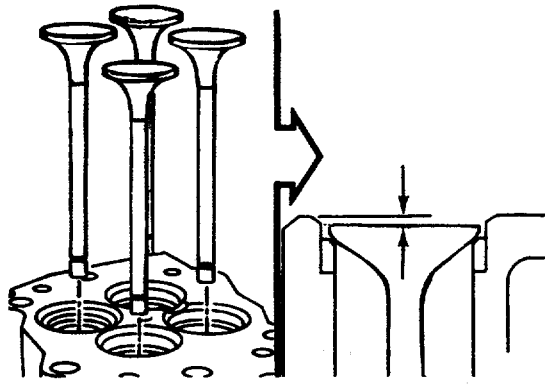
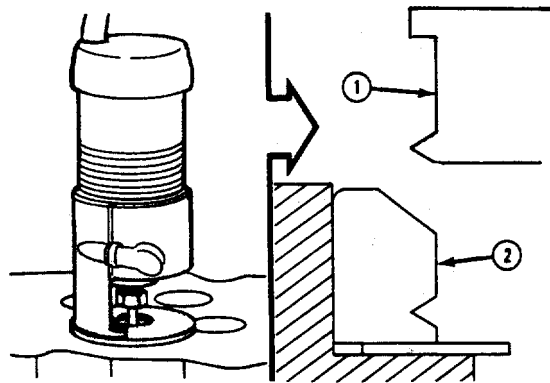
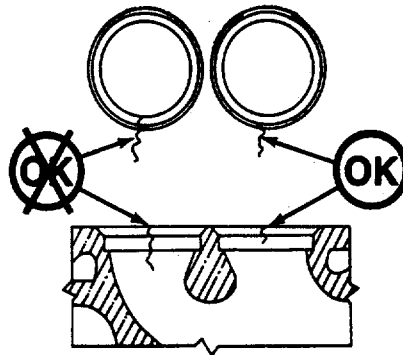

FIGURE 4-21. Valve Depth Measurement.
FIGURE 4-25. Valve Seat Insert Removal.
FIGURE 4-26. Valve Seat Insert Bore Inspection.
- (b) Use gauge block to measure the depth of the valve (FIG. 4-21). Verify the valve depth is even with no more than 0.020 inch (0.51 mm) below the surface of the head. If the valve depth is not within specifications, replace the valve seat insert (FIG. 4-25).
- (e) If leakage is between the valve seat insert and the cylinder head, replace the valve seat insert (FIG. 4-25).
- (1) Use valve seat insert cutter to cut groove (2, FIG. 4-25). Machine a groove in the seat as close to the bottom of the bore as possible.
- (2) Use valve seat extractor (exhaust seat or intake seat) (1, FIG. 4-25). Use extractor knocker assembly. Remove seat insert.
- (3) Remove air flow deflectors from intake ports.
- (4) Clean the valve seat insert bore. Inspect for cracks extending into the bore. Replace the cylinder head if a crack extends into the bottom of the bore (FIG. 4-26).